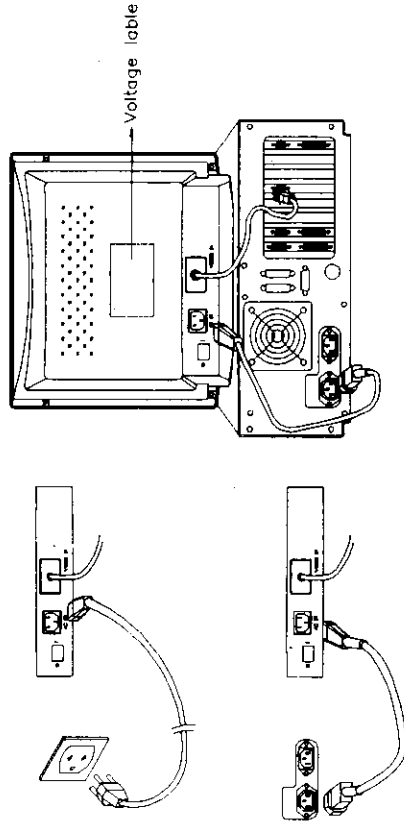

Figure 3 Connecting the Video Cable and Power Cord
2. Tighten the two screws on the cable connector. As Figure 3.